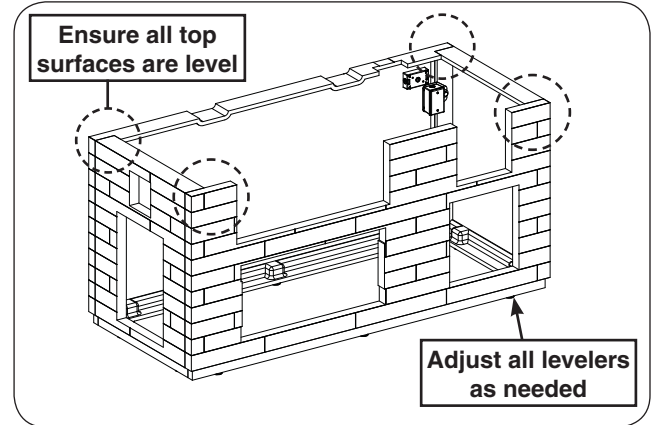

Fig. 8-2 Level assembly
1. Use the level to ensure the top surfaces of the assembly are level. The levelers at the bottom of the island may be adjusted as needed with a  $1/2$ " open end wrench. See Fig. 8-2.